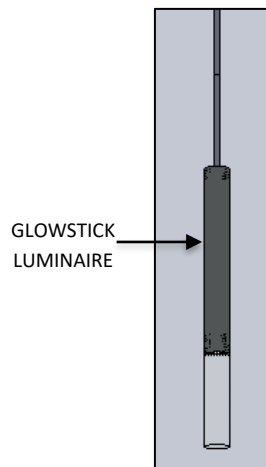

FIG.3 GLOWSTICK LUMINAIRE
1. GLOWSTICK LUMINAIRE (7 OR 14 DROP) with CORD attached. (Pre-assembled as shown in FIG. 3)